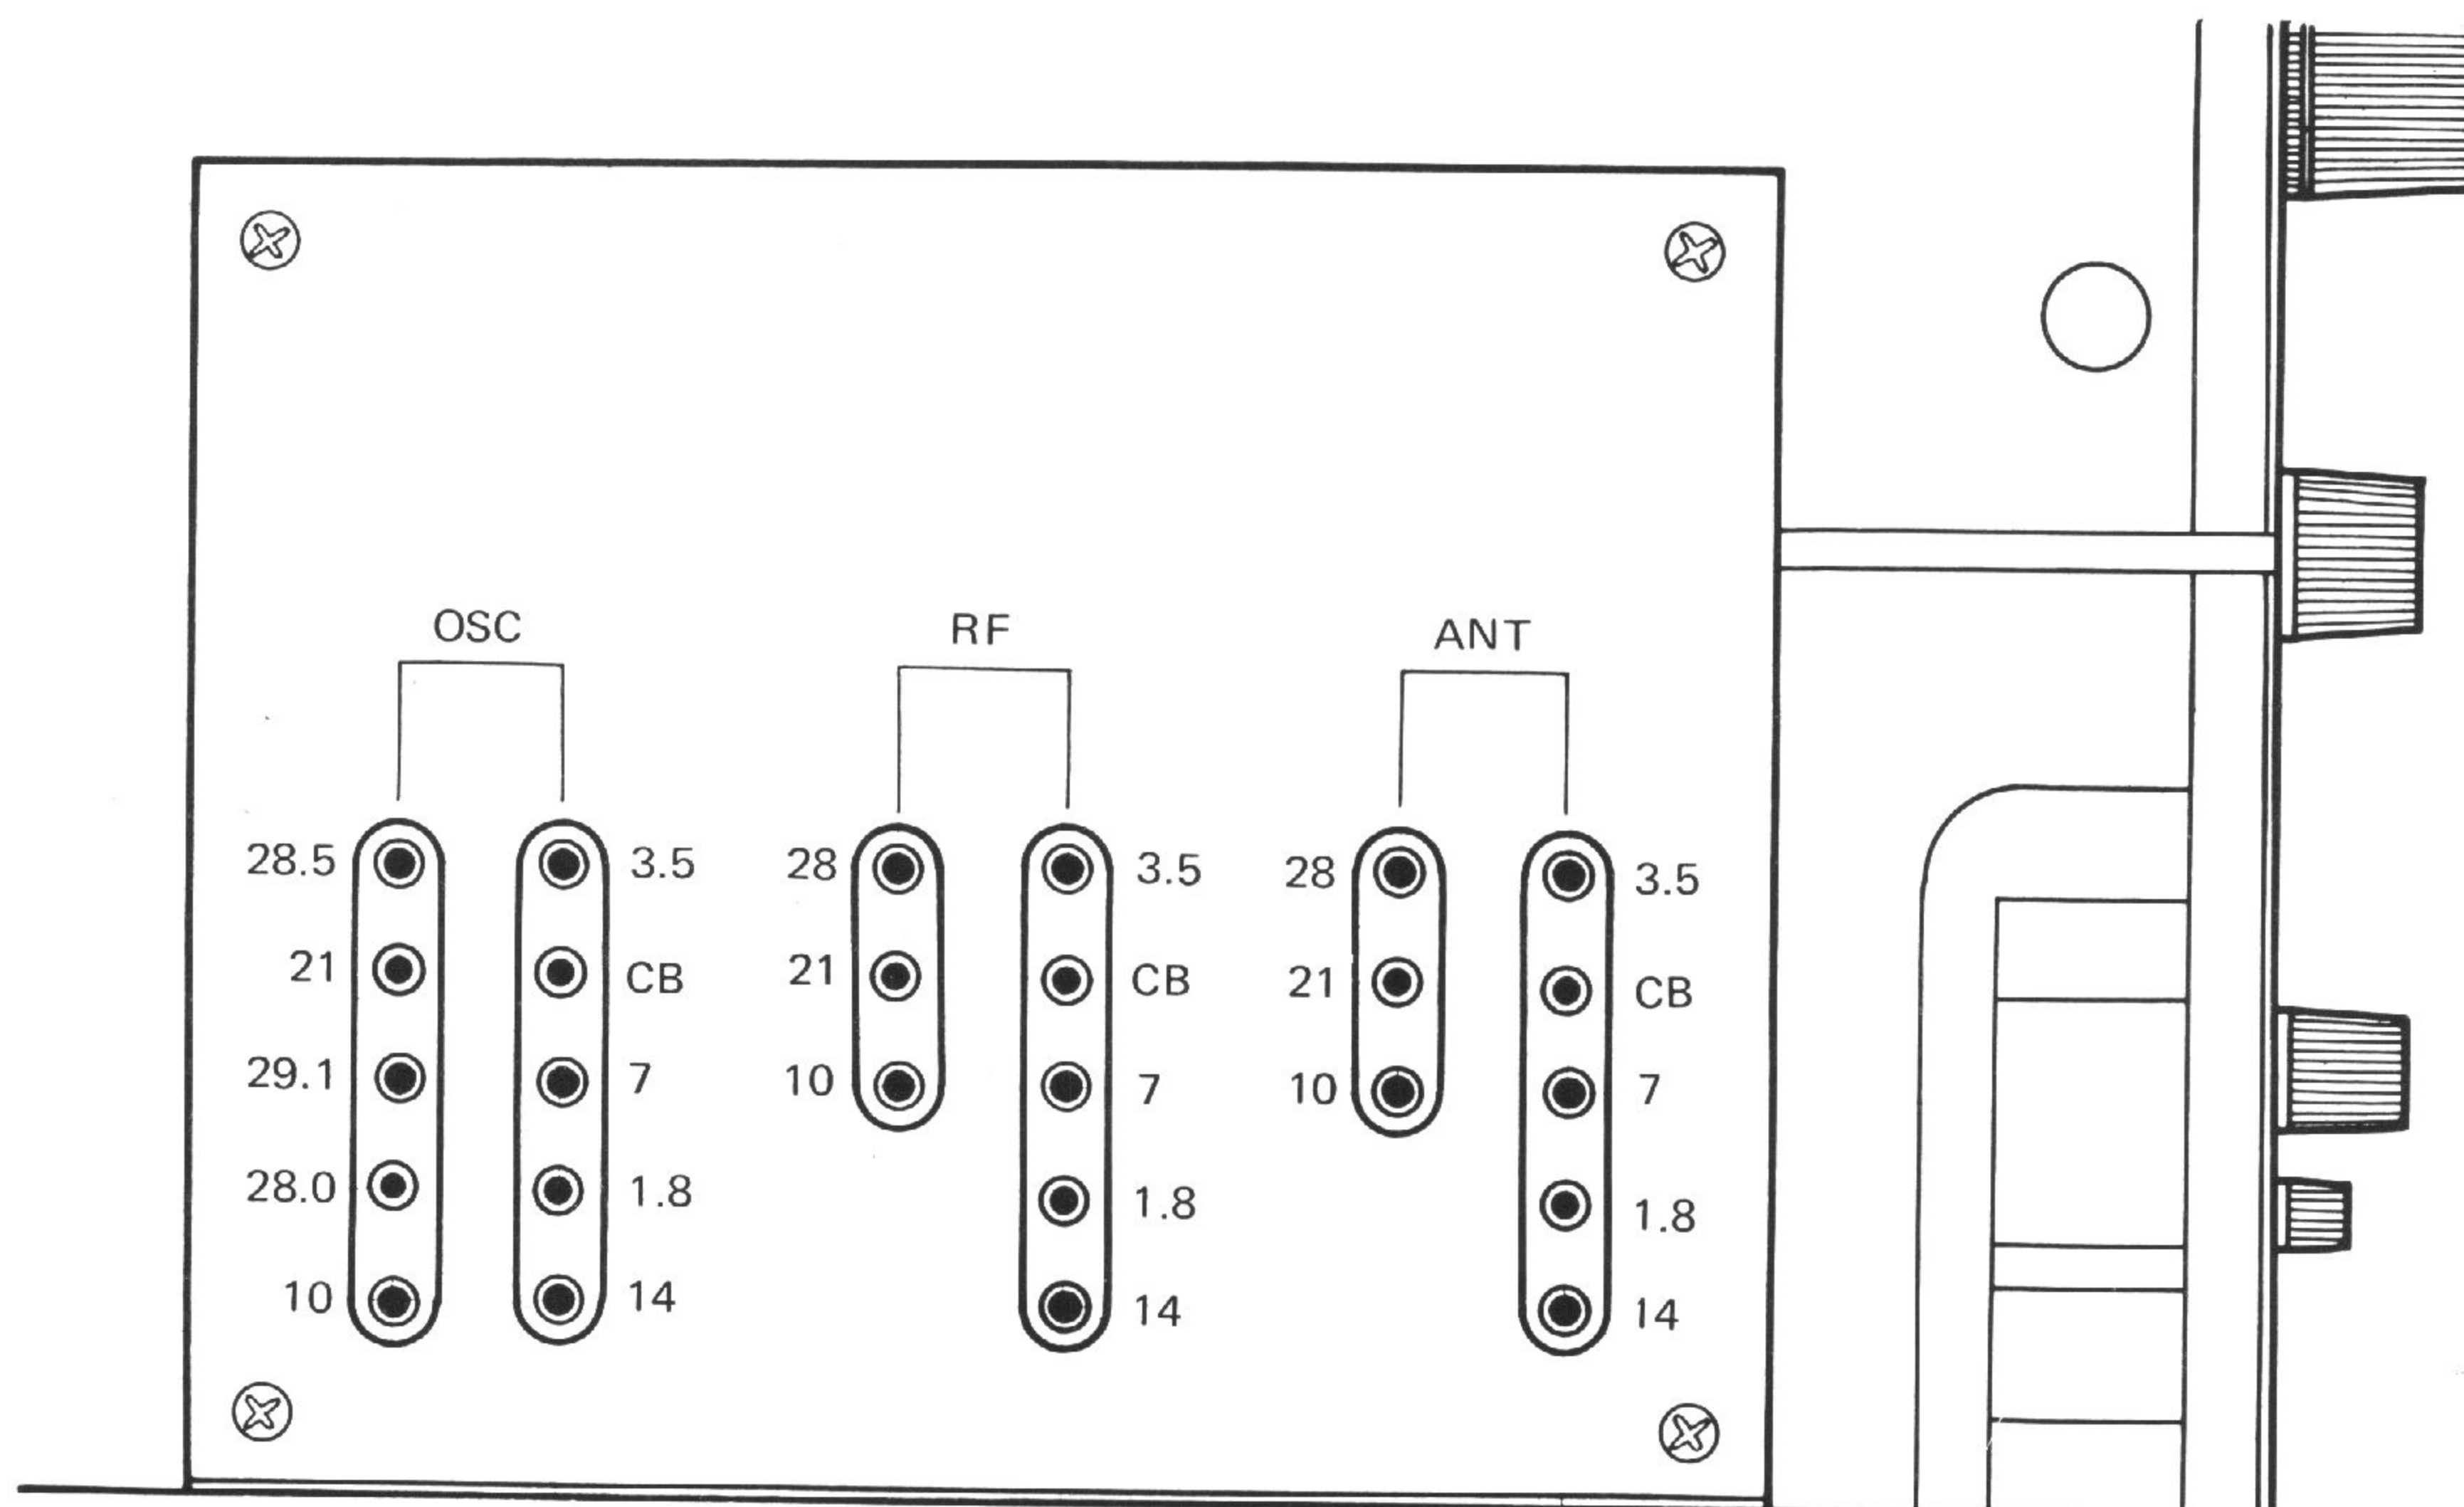

Fig. 5
### A. OSC coil adjustment (Refer to Fig. 5)
(1) Purpose (Refer to Fig. 5)